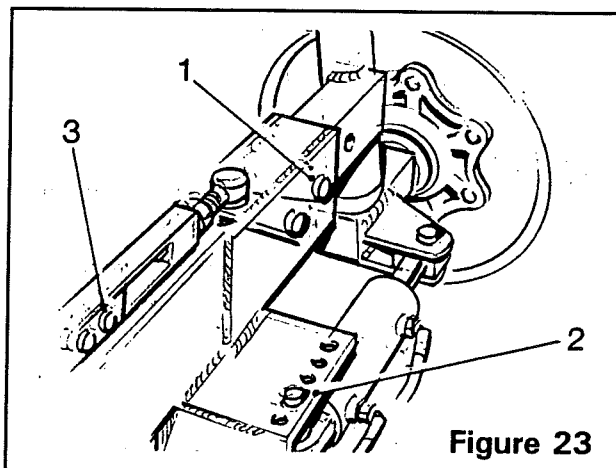

Figure 23
- 2, Remove the axle bolts (item 1, figure 23).
- 3, Remove the ram bolt (item 2, figure 23).
- 4, Remove the retaining bolts (item 3, figure 23).